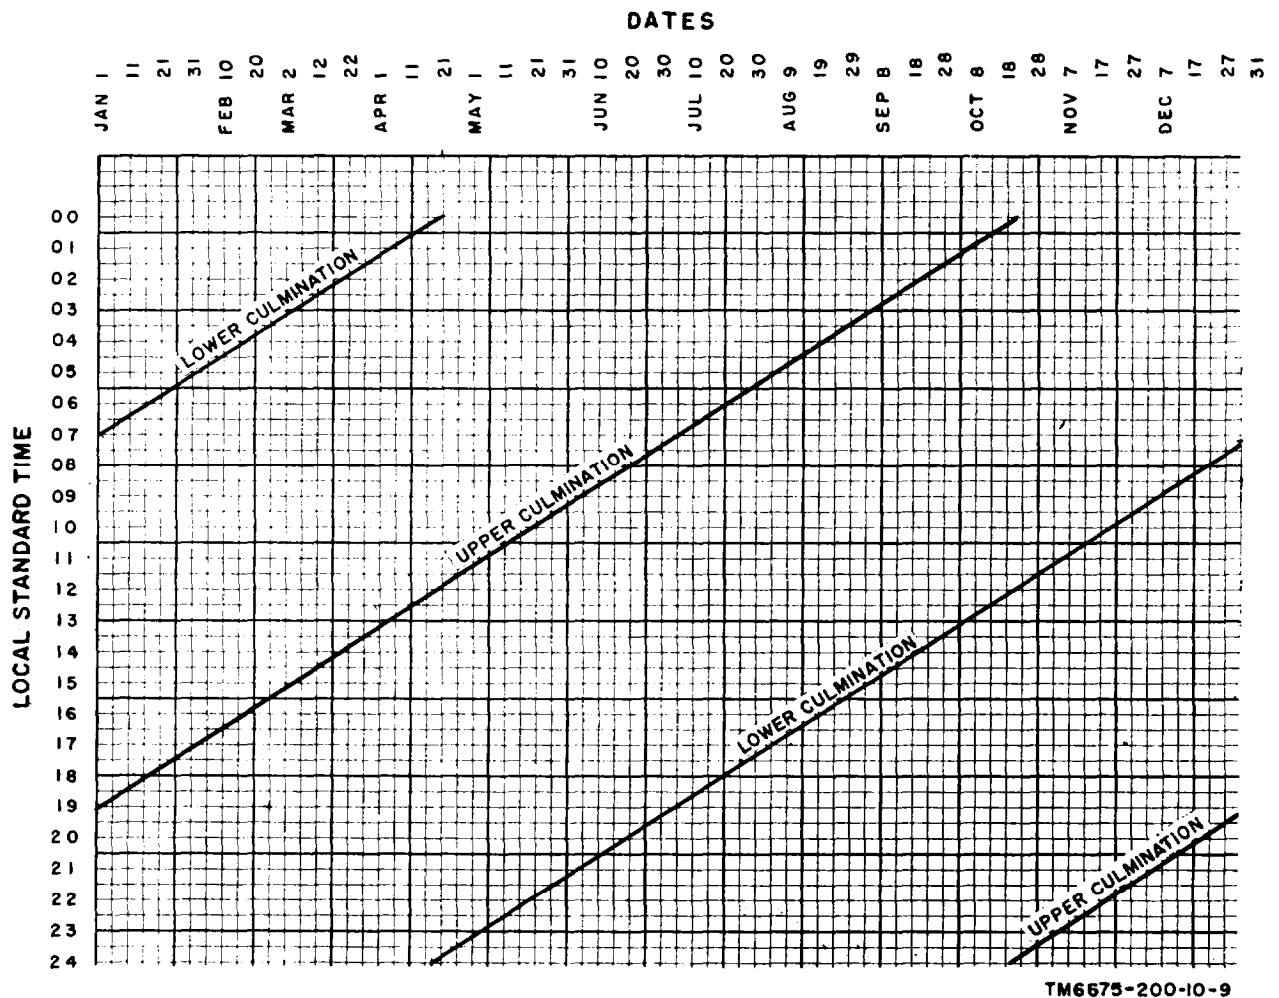

Figure 9. Polaris culmination time graph.
a. Use the Polaris culmination time graph (fig. 9) and determine the local standard time for Polaris at upper culmination.